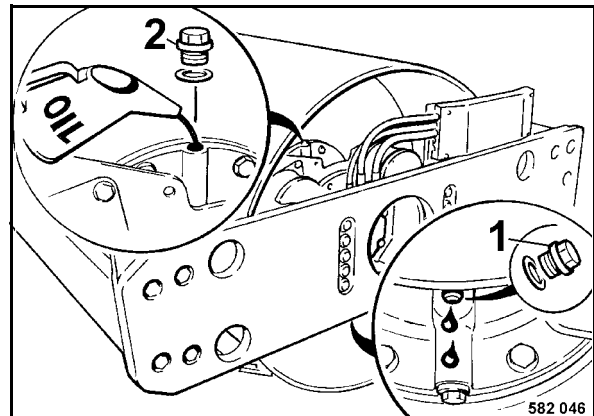

Fig. 68
- Drive the machine, until the oil level inspection plug 1 (Fig. 68) is vertically below the hub.